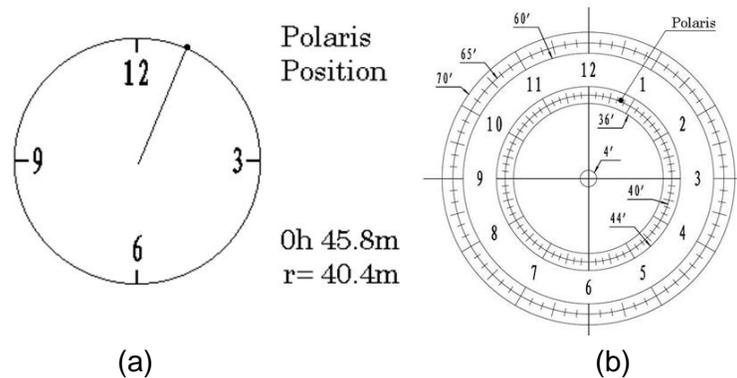

Figure 25. Polaris Position shown on HC (a) and where to put on polar scope reticle (b)
- (6) Look through the polar scope to find the Polaris. Use the Azimuth and Latitude Adjustment Knobs to adjust the mount in both directions and put the Polaris in the same position on the Polar Scope reticle as indicated on the HC display screen. In this case, Polaris will be located at a radius of 41.5 minutes and an angle of 1 hour 26.8 minutes, as shown In Figure 25 (b).